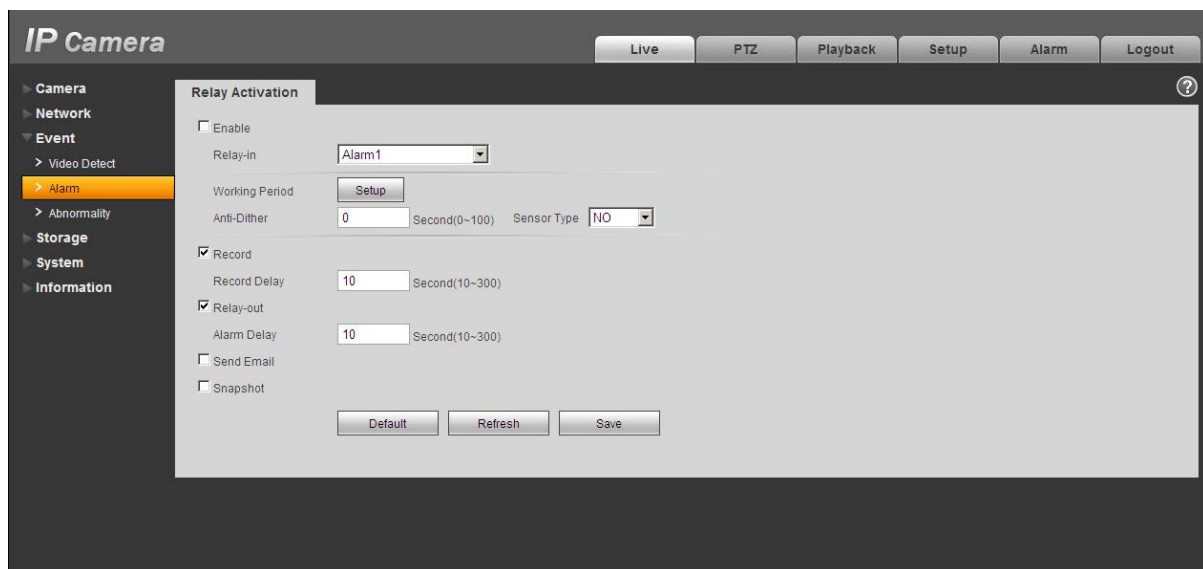

Figure 2-4 Alarm
The alarm interface is shown as in Figure 2-4.
Step 3. Open the Web, go to the Figure 2-4. Here you can set the alarm input setup and alarm output setup. Here the alarm input is the alarm input on the rear panel (as IN port). Then you can select the corresponding type (NO/NC) according to the high/low level type when an alarm occurs.